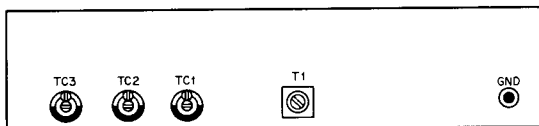
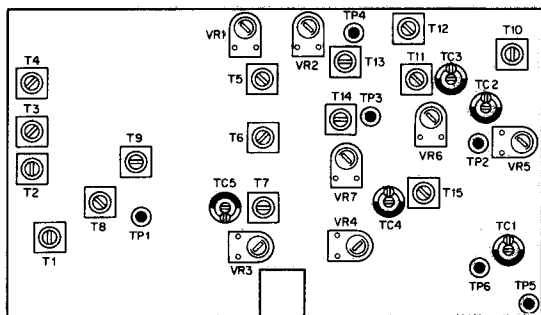
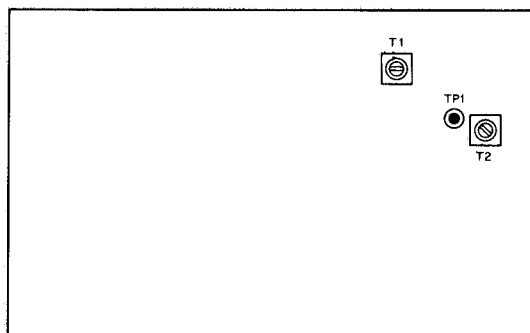

Fig. 21 CAR unit
Fig. 24 IF unit
Fig. 25 RF unit
- 1) Connect RF VTVM to TP5 in IF unit (X48-1150-00) and adjust oscillation coil T1 in CAR-1 unit (X50-1310-00) until the meter reads 50mV (refer to Fig. 21). (refer to Fig. 24 IF unit)
- 2) Adjust T1 to T7 in IF unit (X48-1150-00) and T2 in RF unit (X44-1150-00) until S meter reads maximum value (refer to Fig. 24 and Fig. 25).
- 2) Turn the RF GAIN knob fully counterclockwise and adjust VR3 and TC5 in IF unit (X48-1150-00) alternately until the output becomes minimum (refer to **Fig. 24**).
- 1) After receiving marker signal and turning ON NB switch, adjust T8 and T9 until the terminal voltage at TP1 on IF unit (X48-1150-00) becomes minimum (refer to **Fig. 24**).
- 1) After adjusting each section until sensitivity becomes minimum, adjust VR1 in IF unit (X48-1150-00) under no signal condition, thus making zero point adjustment of S meter (refer to **Fig. 24**).
- 1) Connect RF VTVM to TP6 in IF unit (X48-1150-00) and adjust TC1 in IF unit for 0.1V (refer to **Fig. 24**).